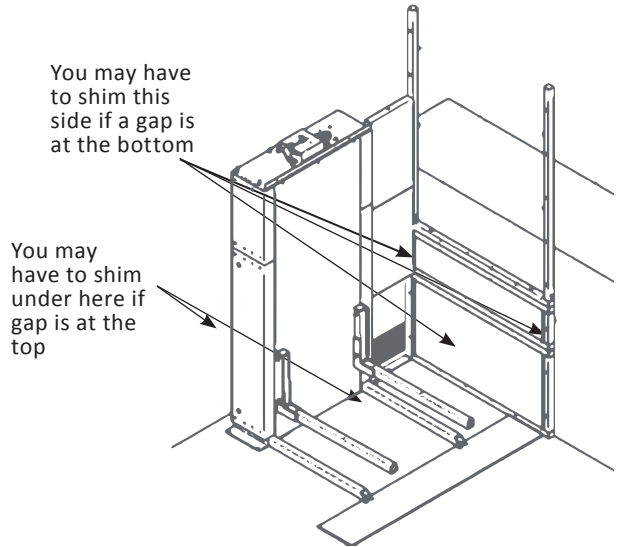

Figure 3-5
- Place the bolts through the tower side panels into the wall panels. **See Figure 3-5.**